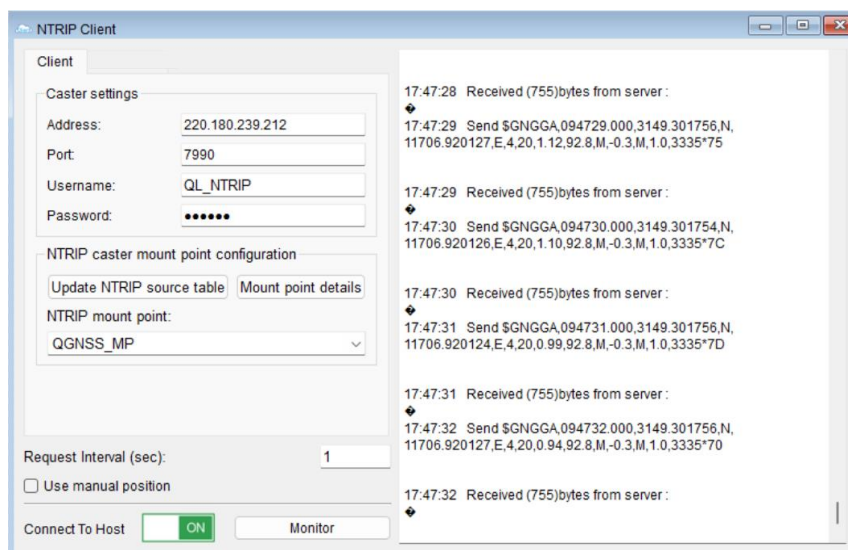

Figure 71: NTRIP Client
- Step 1** Enter the Address, Port, User and Password as shown in Figure 71: NTRIP Client. Contact Quectel Technical Support to get the username and password if necessary.